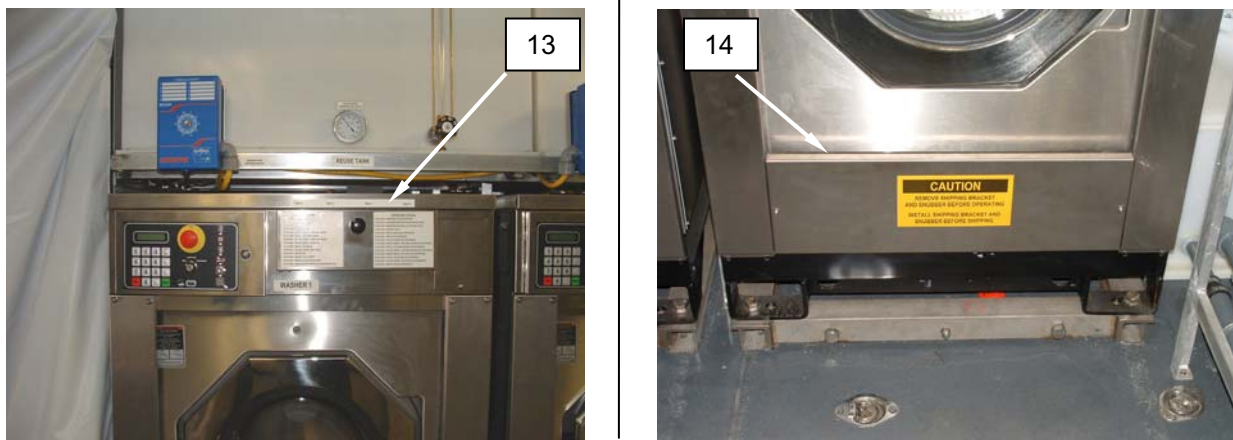

Figure 14. Install Kick Panel on Washers.
26. Close soap tray doors (**Figure 14, Item 13**) on washers.
27. Install kick panels (**Figure 14, Item 14**) on washers.